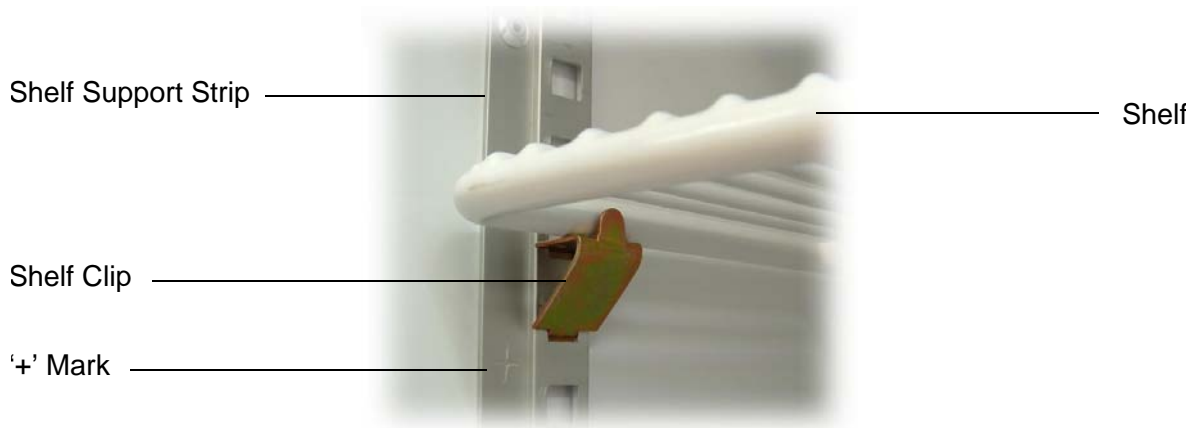

Figure 5: Shelf Clip
2. Establish the desired position for the shelves and securely engage a shelf clip in each of the shelf support strips (see Figure 5 below).